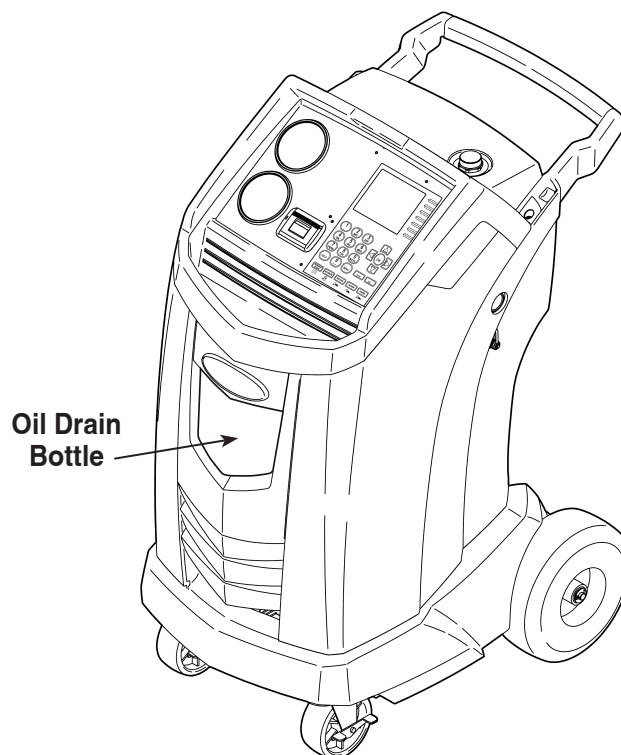

Figure 2
1. Hold the oil drain bottle straight, and insert the connector into the hole until it snaps into place. See Figure 2.